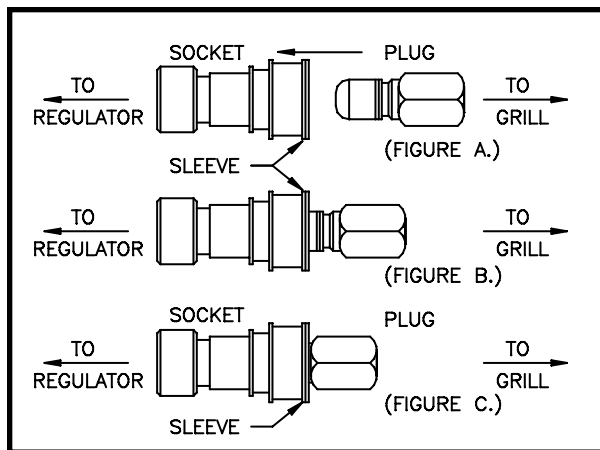

Figure 5. Quick Disconnect Fittings
7. Remove the protective cover from the appliance connection. Attach the hose end of the Regulator to the appliance using the "Quick Disconnect Instructions" (see Figure 5 on pg. 8).
- Remove the protective cover from the appliance connection. Attach the Regulator to the appliance using the "Quick Disconnect Instructions" (see Figure 5 on pg. 8).
9. Disconnect the Regulator Assembly using the “Quick Disconnect Instructions” (see figure 5). Place the protective cover on the appliance connection.